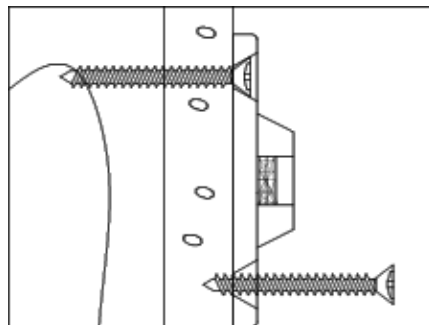
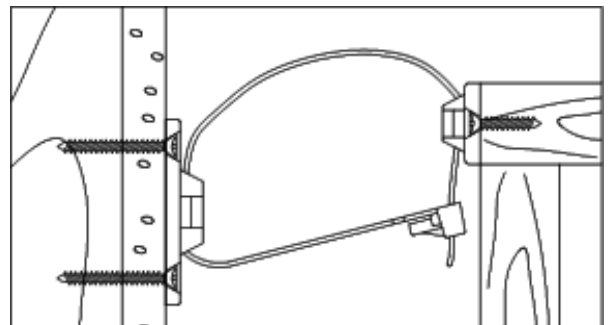

Figure 2
Figure 3
- 3) **MOUNTING THE WALL-SIDE BRACKET:** Position the wall-side bracket along the selected stud mark so that it will be adjacent the furniture-side bracket when the furniture item is moved to its final position. The wall-side bracket should be about ONE inch lower than the furniture-side bracket (See Figure 3). Use the TWO Long screws to secure the wall-side bracket to the wall. Remember to position the wall-side bracket vertically so that both screws will engage the selected wall stud (See Figure 2).